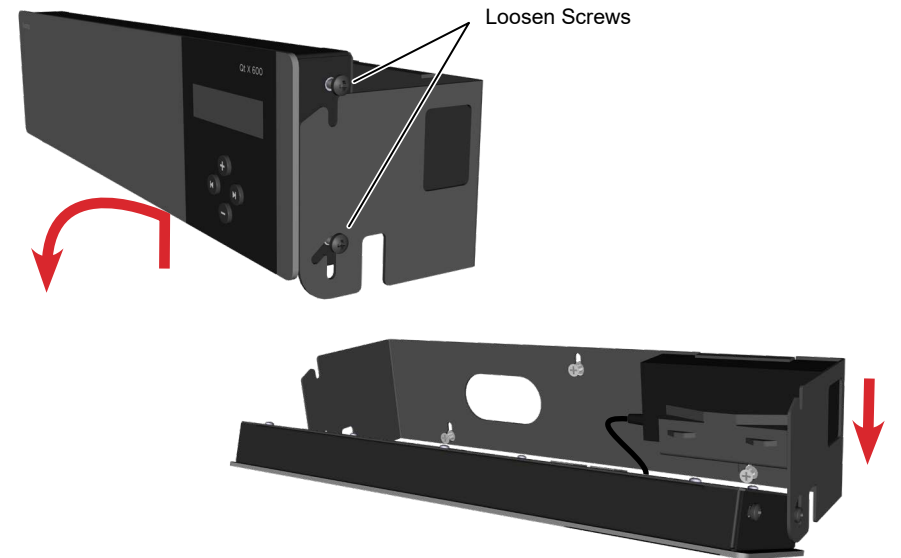

Figure 1. Mount unit / wall bracket
1. Place the wall mount where it is to be mounted and mark the hole locations. The control module hinges forward for wall mounting and cable installation. To hinge forward, loosen the screws on both sides, lift it up to disengage the top screws, and rotate forward as shown (Figure 1).